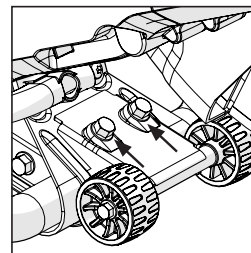

FIG. 10
- Use the supplied undercarriage bolts to secure the carriage to the machine. **(Fig. 10)**